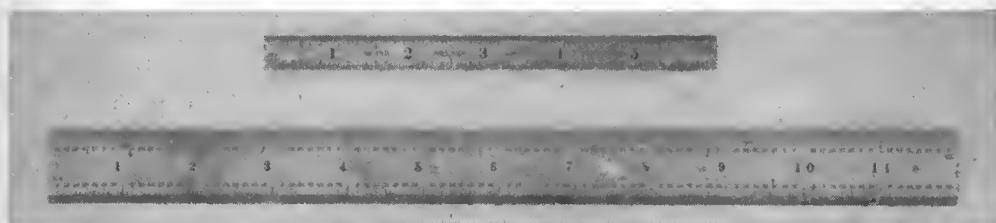

Figure 55. Measuring tape.
b. TAPES. (1) There are several kinds and lengths of tapes. The one used by an airplane mechanic (fig. 55) is 6 feet long and made of steel. It is coiled in a circular case. It may or may not have one end fastened permanently to the case. The tape may easily be drawn out of the case when needed and pushed back into the case when not needed. It is made of flexible steel and rolls up in the case as it is pushed in. It is graduated on one side only in $\frac{1}{16}$ - and $\frac{1}{32}$ -inch divisions. It has a small lip on the end. This lip prevents the tape from sliding completely